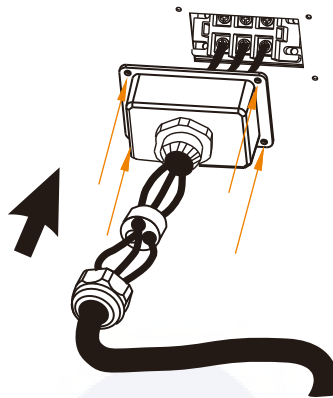

Figure 5
Step 4: Fasten the AC input water-proof cover securely, as shown in Figure 5.